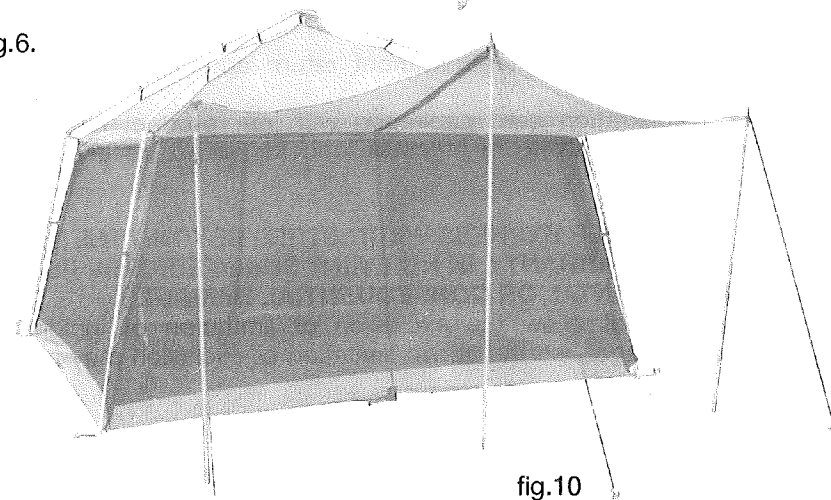

fig.10
11. The Northern Breeze features an awning over each door. Untie one of the awnings and assemble the three awning poles. The tall pole fits in the center grommet with the two shorter poles at the sides. Drive three stakes, each one pole length out from the tent, and attach a cord/slider to the awning loop at each pole and to its stake. Adjust the slider for proper tension. See fig.10.